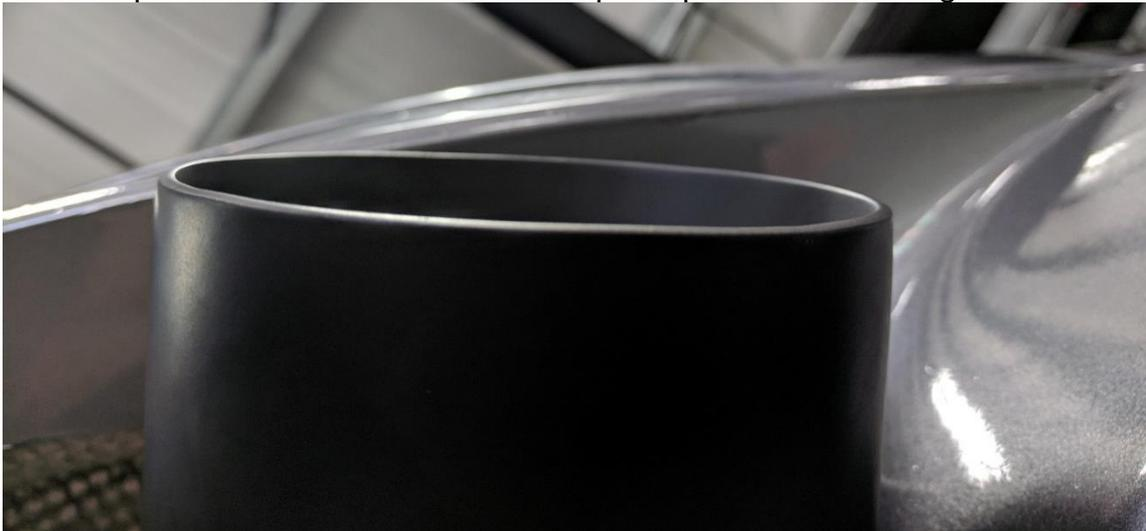

Figure 11
- 6.1. The tip should be flush with the rear bumper as pictured below in Figure 11.